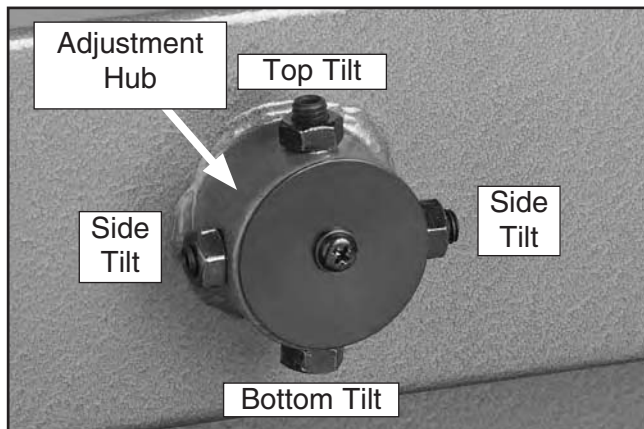

Figure 64. Lower wheel adjustment control.
2. Loosen the jam nuts on the lower wheel adjustment hub (see **Figure 64**).